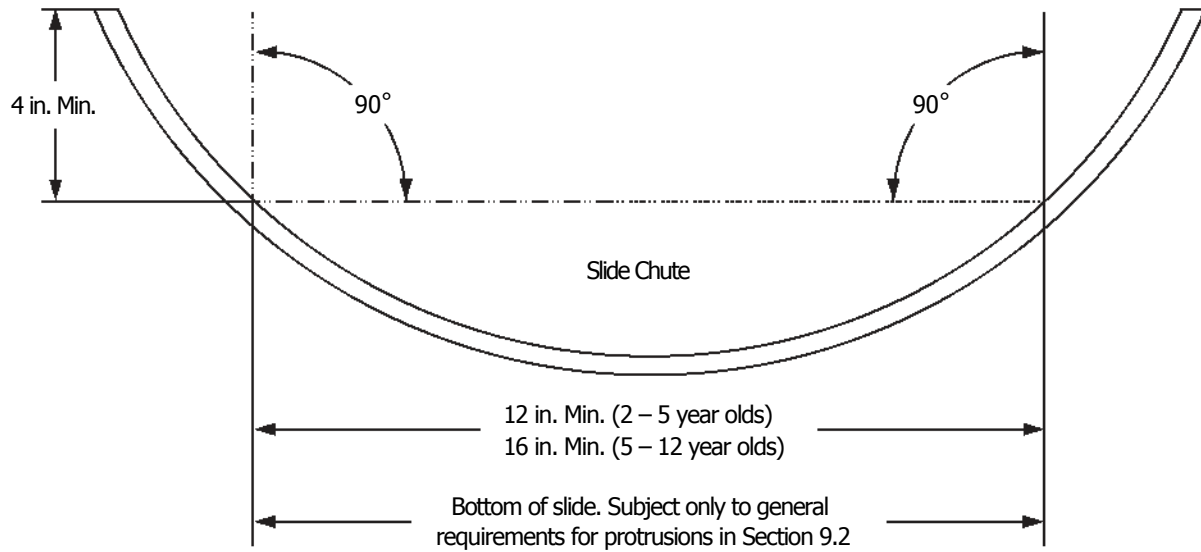

Figure 19. Minimum Side Height for Slide with Circular Cross Section
- the vertical height of the sides is no less than 4 inches when measured at right angles to a horizontal line that is 12 inches long when the slide is intended for preschool-age children and 16 inches long when the slide is intended for school-age children (see Figure 19);